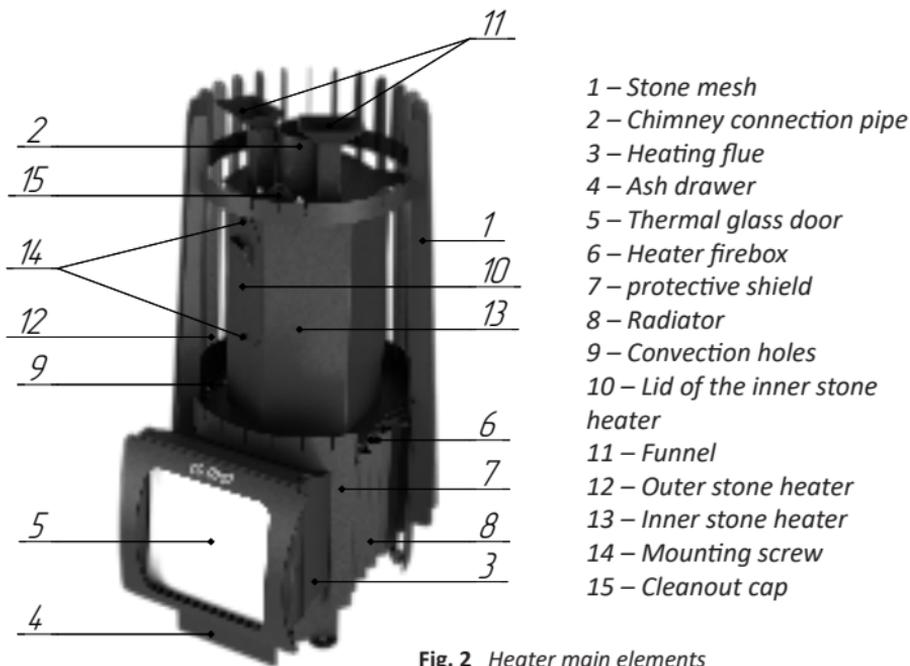

Fig. 2 Heater main elements
Overall view and location of the heater main elements are shown in Figure 2. Heater firebox (6) is fabricated of high duty rolled steel. Use of such steel increases the heater's durability and service life taking into account the firebox wall thickness of 3 mm, while the most critical elements are made of 5 mm thick steel.
Installation of the lid shall be carried out after loading stones into the inner stone heater. For heater operation in fine steam mode the lid shall be installed tight against the wall of the stone heater. The lid position is adjusted via mounting screws (item 14 in Figure 2). The screws have hex holes (included). The lid shall be removed, if you need access to the stones or during the operation of the stone heater in traditional steam mode.